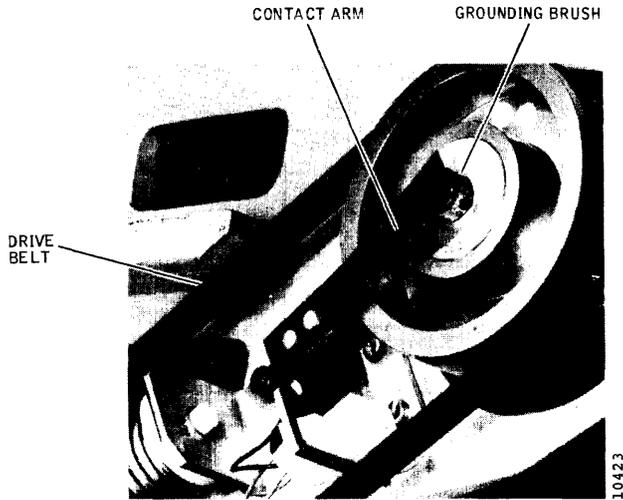

Figure 2-5. Spindle Drive Component Checks
3. Check the resistance between the spindle contact arm (Figure 2-5) and the spindle. Resistance must be less than one-half ohm. If the resistance is too high, the brush must be serviced and readjusted. Refer to Section 3.
1. Inspect the spindle drive belt (Figure 2-5) for fraying or other damage. If damage or belt stretching is apparent, replace the drive belt.